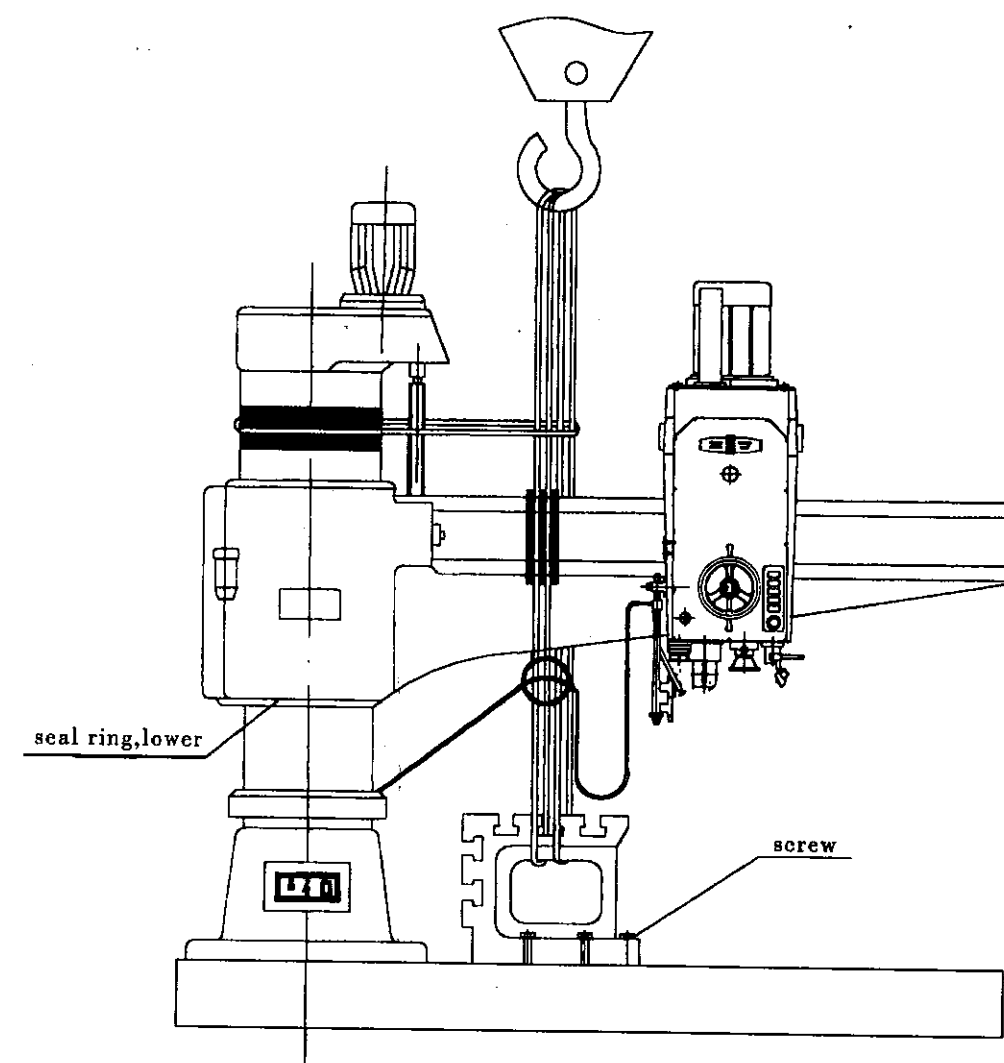

Fig. 2.2 Overall Unit Handling diagram
2.2 Overall unit handling (Fig. 2.2)
1. In respect to this machine tool, floating place the lower seal ring of the arm sleeve, and installation the left end cover of the arm in an open state, these are not normal assembling position, please install them in the correct position during the installation of the machine tool (See Fig. 2.2).